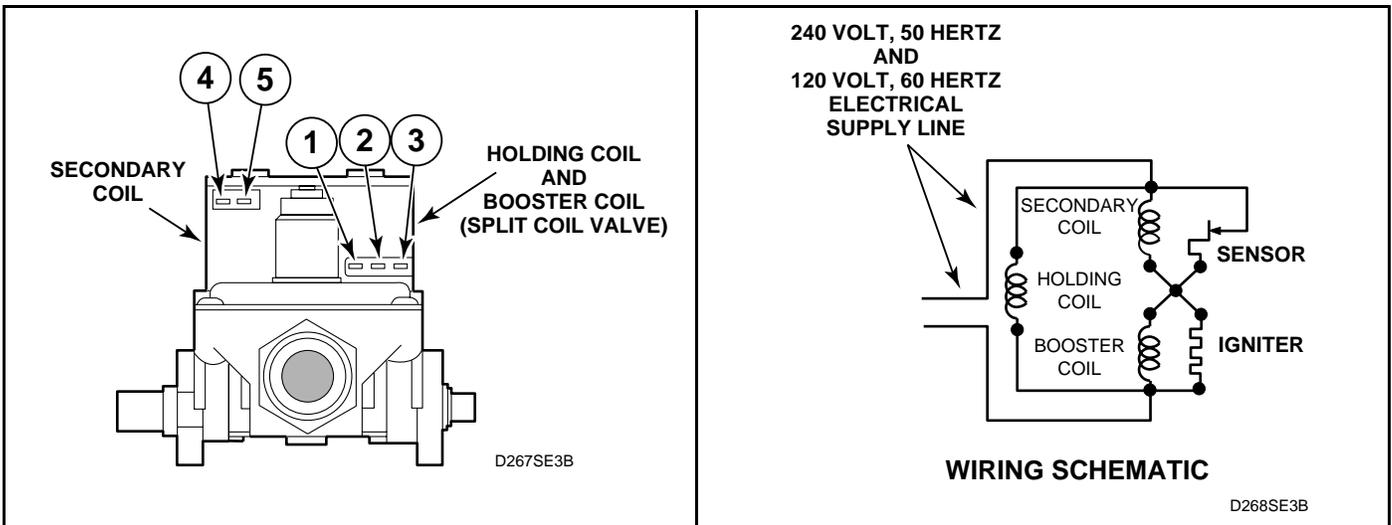

Figure 60
62. BURNER SYSTEM OPERATION – Silicon Carbide Ignition (Figure 60)
- d. Remove valve wire harness disconnect block from the holding and booster coil. See *Figure 60*.
- f. Set test meter to read AC voltage and apply meter probes into terminals on the dryer harness plug that would correspond to terminals 1 and 2 on the coil. See *Figure 60*. Meter should register line voltage in all Fabric settings, except FLUFF which should read “zero” VAC.